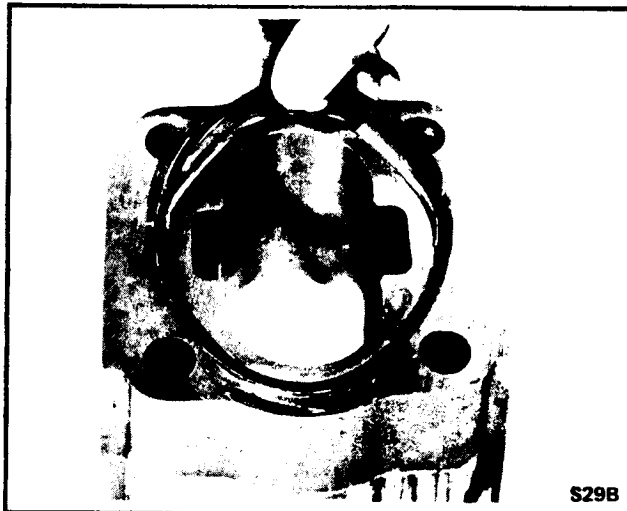

*Fig. 30—Shaft End Cover Properly Gripped in Vise*
11. Grip the shaft end cover in the vise with the mounting face down. See Fig. 30.